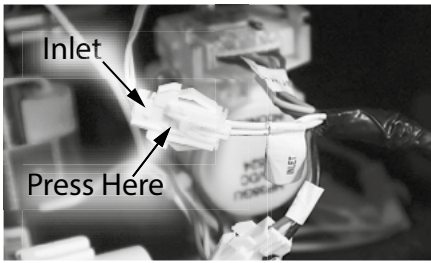

Figure 12 - Inlet harness disconnect instructions
- 22 To disconnect the "INLET" harness, reference Figure 12.